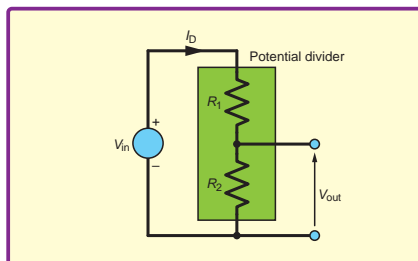

Fig.1. Potential divider
The basic potential divider (Fig.1) comprises two resistors in series connected across a voltage source. Potential dividers can also be made using combinations of other components such as capacitors and inductors. The potential divider is a fundamental concept and basic 'building block' of electronic design. Therefore, discussion of the question posed by **Tuurbo46** leads us to introduce some basic circuit theory, which is useful to anyone designing, or endeavouring to understand, the operation of electronic circuits.
Refer to Fig.1, the current (I_D) in the potential divider resistors (R_1 and R_2) can be found using Ohm's law. Ohm's law is the relationship between the voltage (V) across a resistor (R) and the current (I) through it; specifically $I=V/R$. In this case, because the resistors are connected in series, the total resistance is the sum of the two, so Ohm's law gives the current in the divider as:
If we take our example potential divider (Fig.1 with two 10kΩ resistors) and connect a 10kΩ load, the effective value of the R_2 resistor in Fig.1 becomes 5kΩ (the parallel combination of two 10kΩ resistors). Using the potential divider formula, this gives an output voltage of $5 \times 5 / (10+5) = 1.67V$, a significant deviation (–33%) from the open-circuit output voltage of 2.5V. Adding the 10kΩ load has significantly reduced the output voltage. If the load is increased to 100kΩ then the voltage drops to 2.38V (–4.8% shift); and with a 1MΩ load the output is 2.49V (–0.5% shift). As a rule of thumb, a load resistance connected to a potential divider should be at least ten to one hundred-times larger than the resistor across which the load is connected to avoid the voltage shift from being too large.
As Turbobo46 indicated in his question, the potential divider cannot supply a higher current than this into a grounded resistive load; and at this current the voltage across the load is zero. This immediately proves that the potential divider in Fig.1 is unsuitable for the specified power supply application, which requires 100mA at 2.5V.